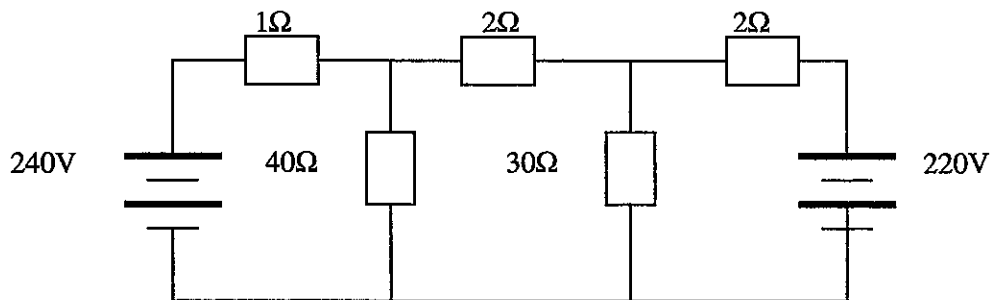

Fig Q2
- (a) the value to which  $R$  must be adjusted for the current to be 2A; (8)
- (b) the resistance of the non-linear resistor under these conditions; (4)
- (c) the power dissipated in the non-linear resistor. (4)
2. For the network of resistors shown in Fig Q2, determine EACH of the following:
- (a) the current supplied by each battery; (10)
- (b) the voltage across the  $30\Omega$  resistor; (3)
- (c) the power dissipated in the  $40\Omega$  resistor. (3)